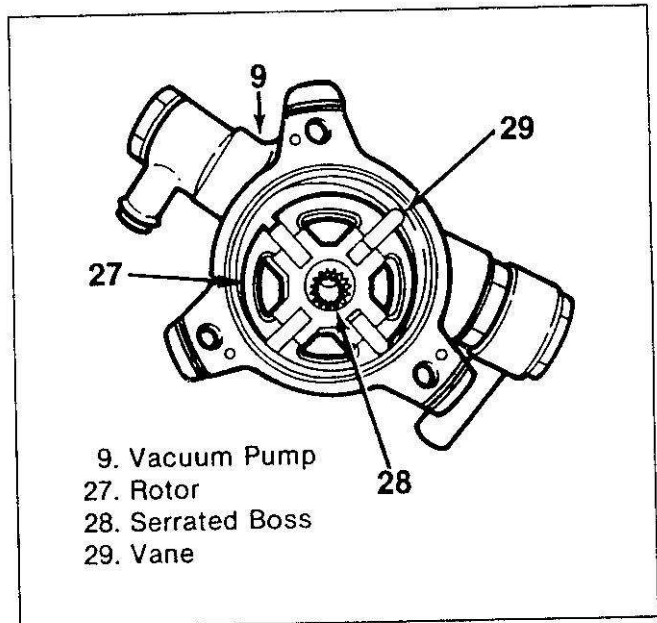

Figure 22. Installing Vanes Into Rotor
16. Vacuum pump assembly (9).
- Position the rotor (27), with the serrated boss (28) turned up, on the center plate and housing (figures 22).
- Install vanes (29) into the slits in rotor (27).
The vanes must be installed with the round side turned outward (figure 22).